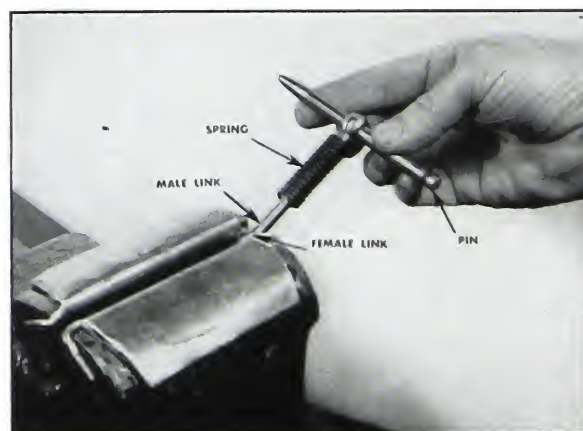

Fig. 5-225. Assembling over-run link
3. The spring has been screwed on to both the male and female sections of the link. To disassemble, screw off as shown in Fig. 5-225.
4. To reassemble, use an extreme pressure lubricant and screw spring on until flush with end of thread. See Fig. 5-225.